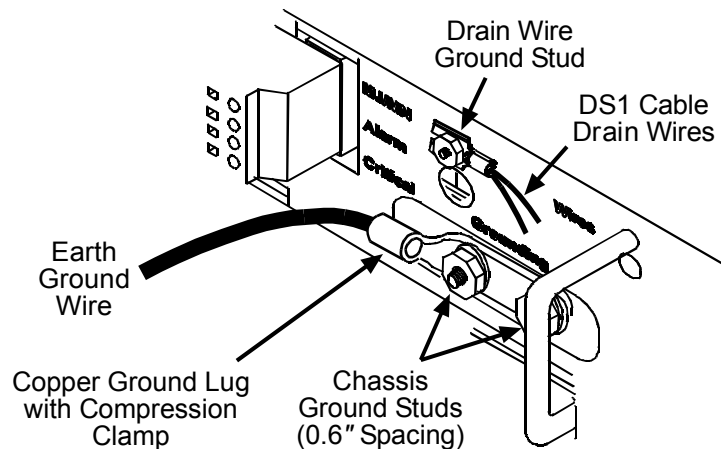
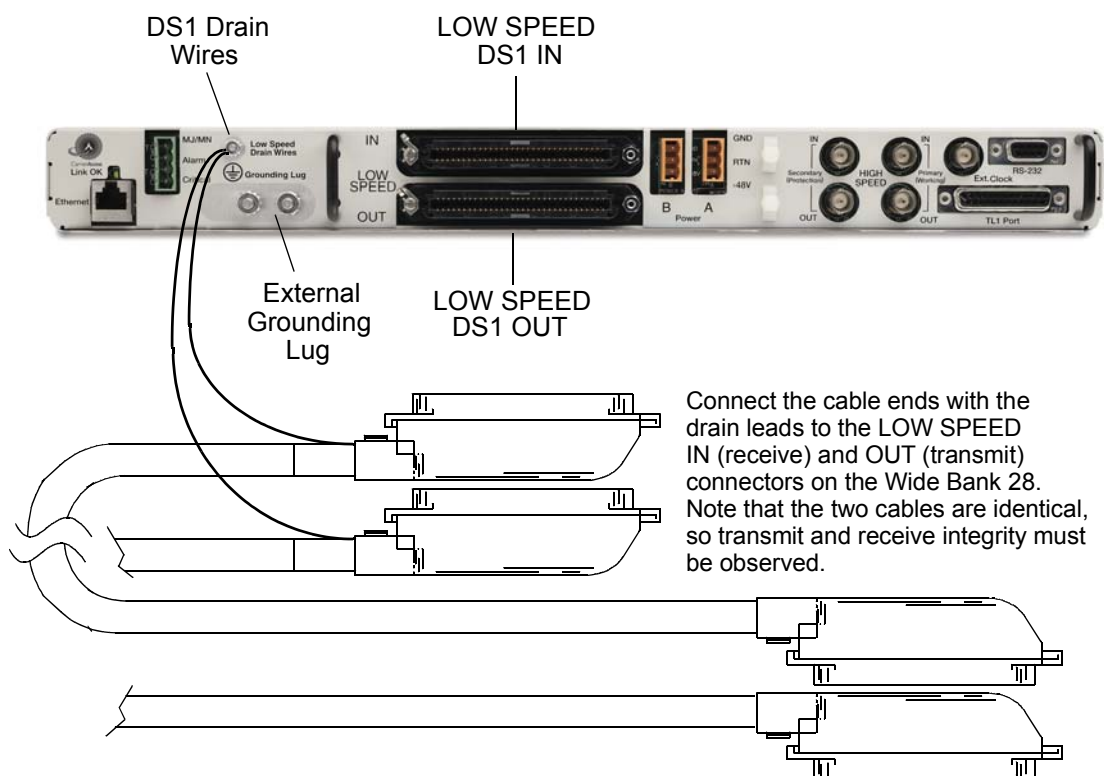
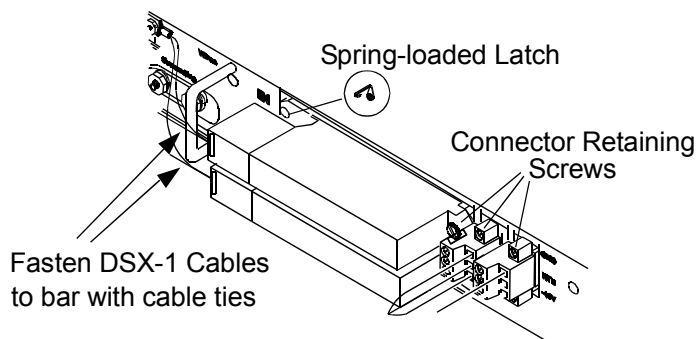

Figure 5-3 Ground Connections
Figure 5-4 Connecting the Low-speed Cables
Figure 5-5 Fastening & Tying Down Low-speed Cables
1. Carefully connect the 64-pin connectors of DSX-1 cables to **LOW SPEED IN** and **LOW SPEED DS1 OUT** on the Wide Bank connector panel (see Figure 5-4). Ensure that the spring-loaded connector latches snap over the connectors (see Figure 5-5).
2. Insert and tighten the connector screws on the ends of both connectors (see Figure 5-5).
3. Secure both low-speed cables with cable ties as shown in Figure 5-5.
4. Connect both grounding wires from the low-speed cables to the **Low Speed Drain Wires** connection, as shown in Figure 5-3 and in Figure 5-4.